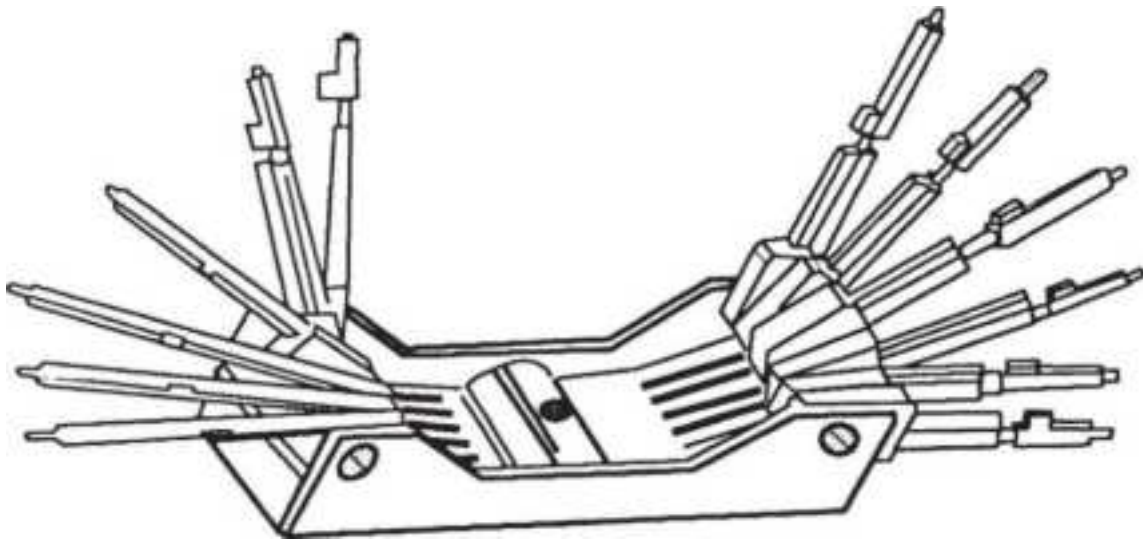

**Figure 2.35** Safe change keys are needed to change the combinations of certain types of safes. (*Keedex Mfg.* )
- Change keys, assorted (Fig. 2.35 )